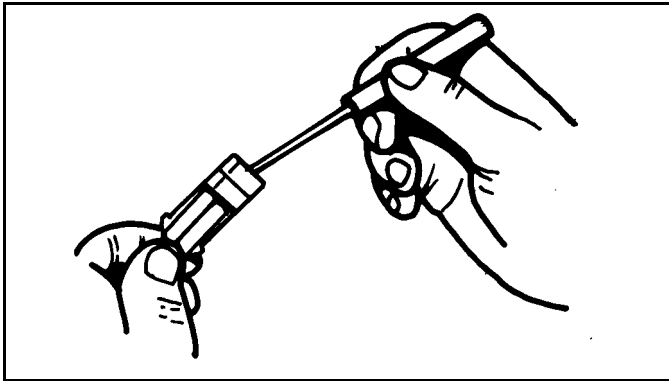

Figure 3-14
3. Use Terminal Removal Tool (#96102499) to remove contact from connector body. (See Figure 3-14)